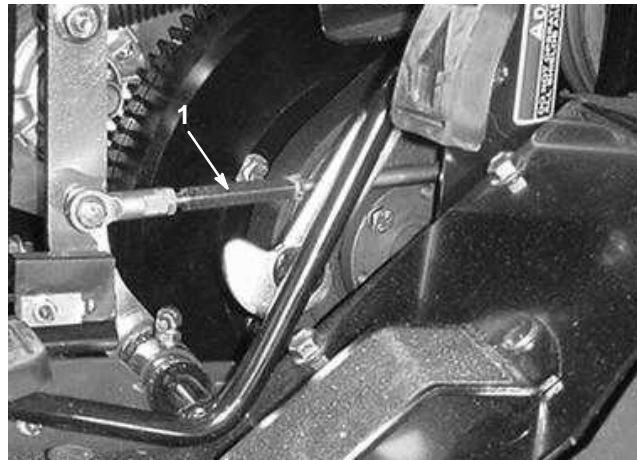

Figure 60
2. Loosen the jam nuts on each end of the traction rod barrel (Fig. 60).